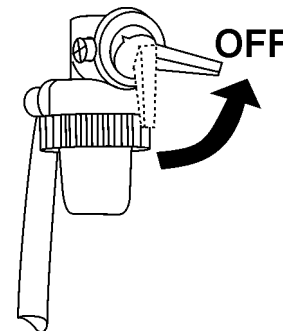

Figure 25. Engine Fuel Valve Lever (OFF Position)
- Place the engine **fuel valve lever** (Figure 25) to the "OFF" position."